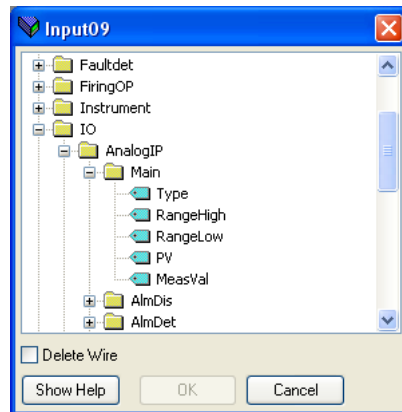

Figure 139 Browser window
1. Double click the next available position in the input or output data table and select the variable to assign to it. A pop-up (figure 139) provides a browser from which a list of parameters can be opened.